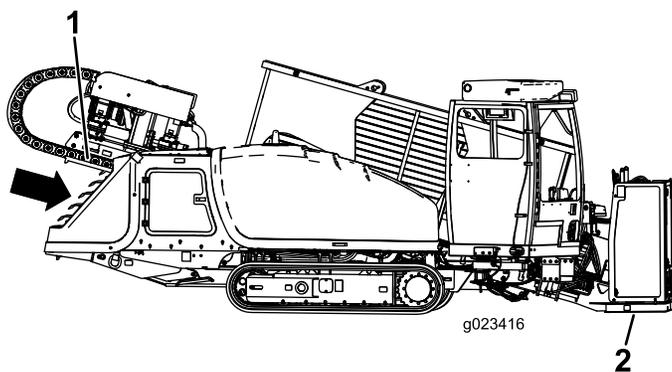

Figure 42
- Lower the thrust frame, tilting the drill frame until the plate contacts the ground (Figure 42).